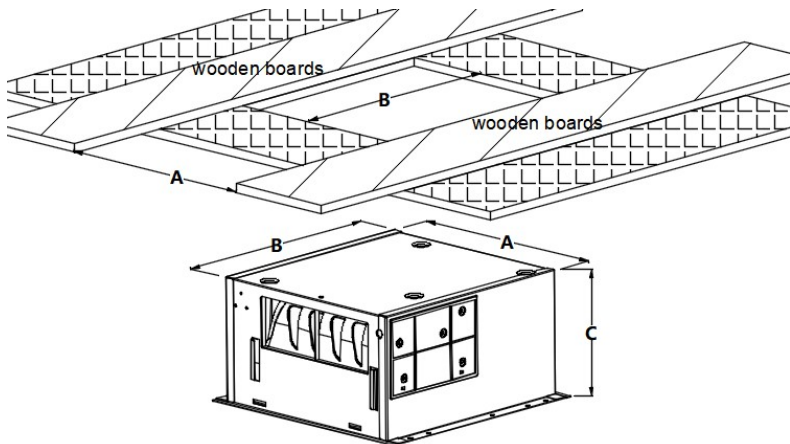

Fig.2.
3. Fix two wooden boards with a thickness of over 15mm and align the cut holes. Consistent with the installation direction shown in the diagram. (See the Fig.2.)